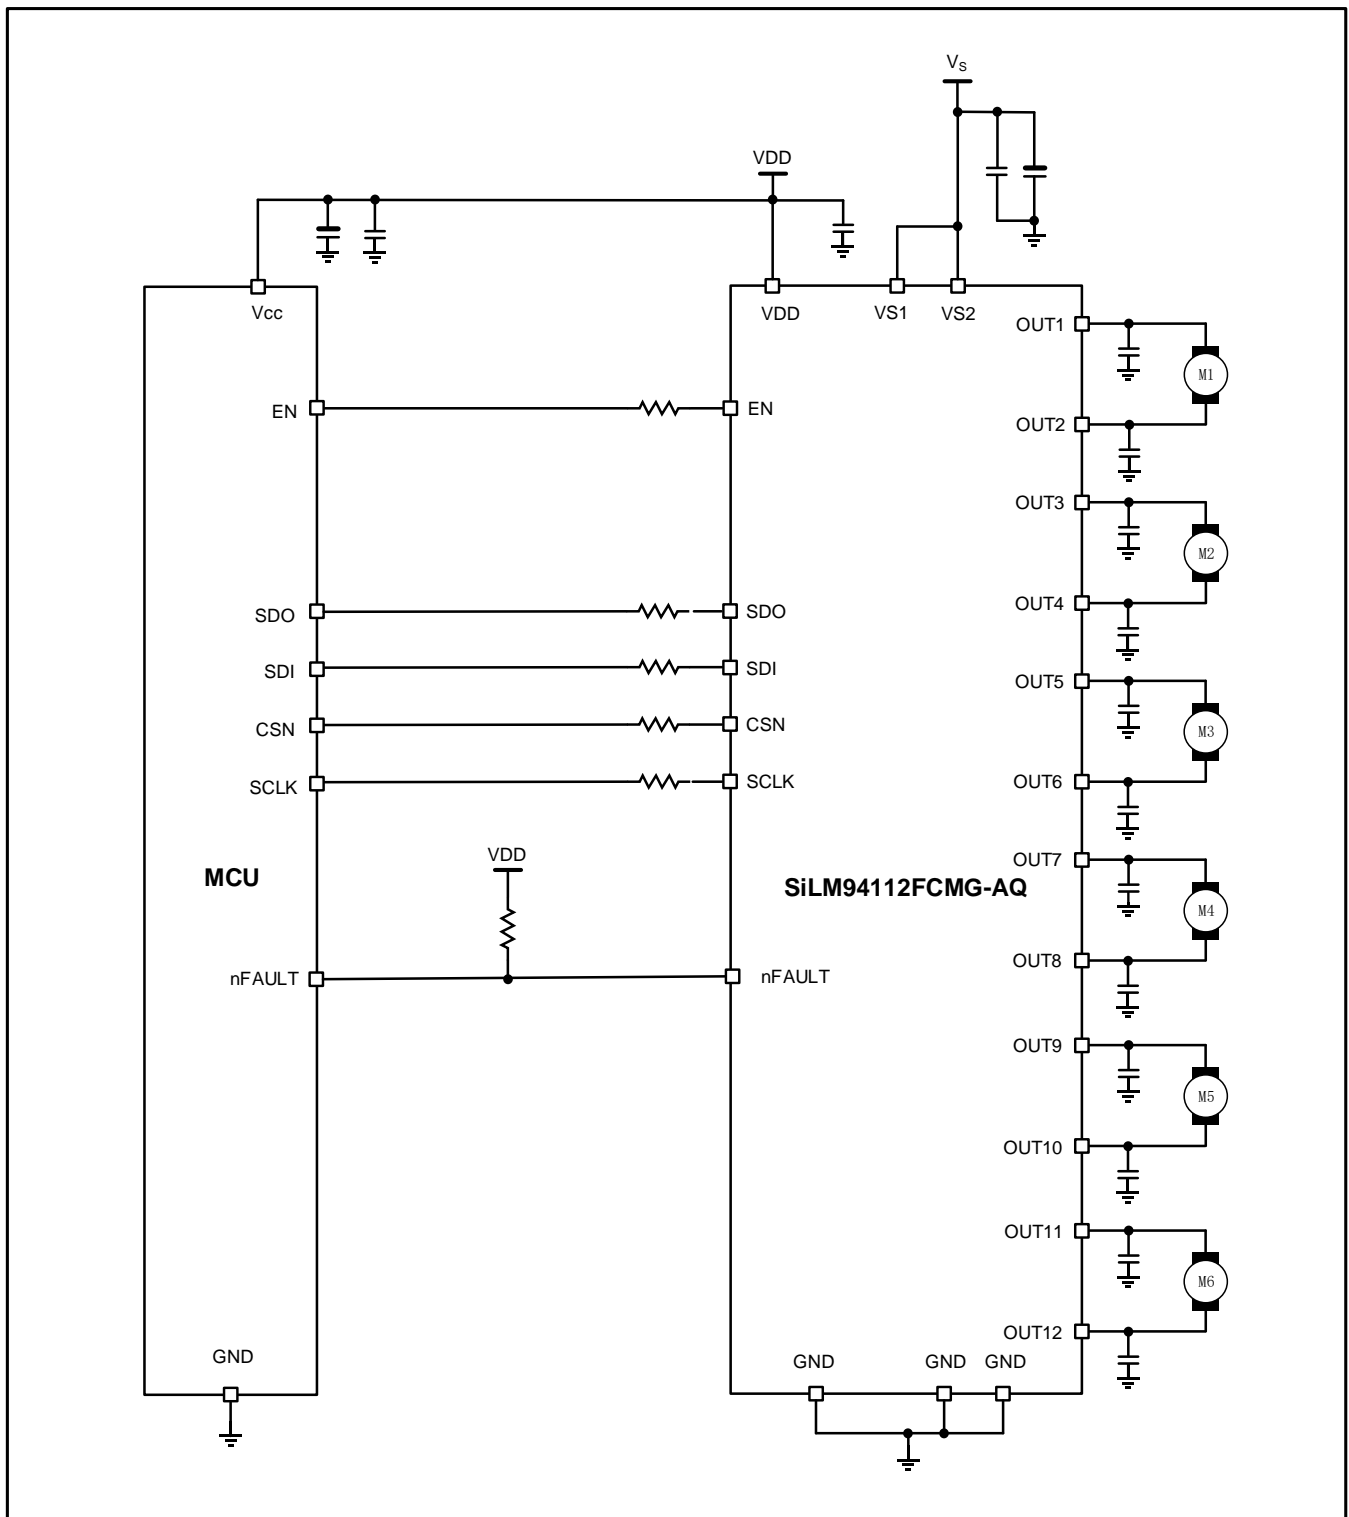

Figure 25. Application example for DC-motor loads
- One 16-bit SPI command consists of two bytes (see Figure 25 and Figure 26), i.e.